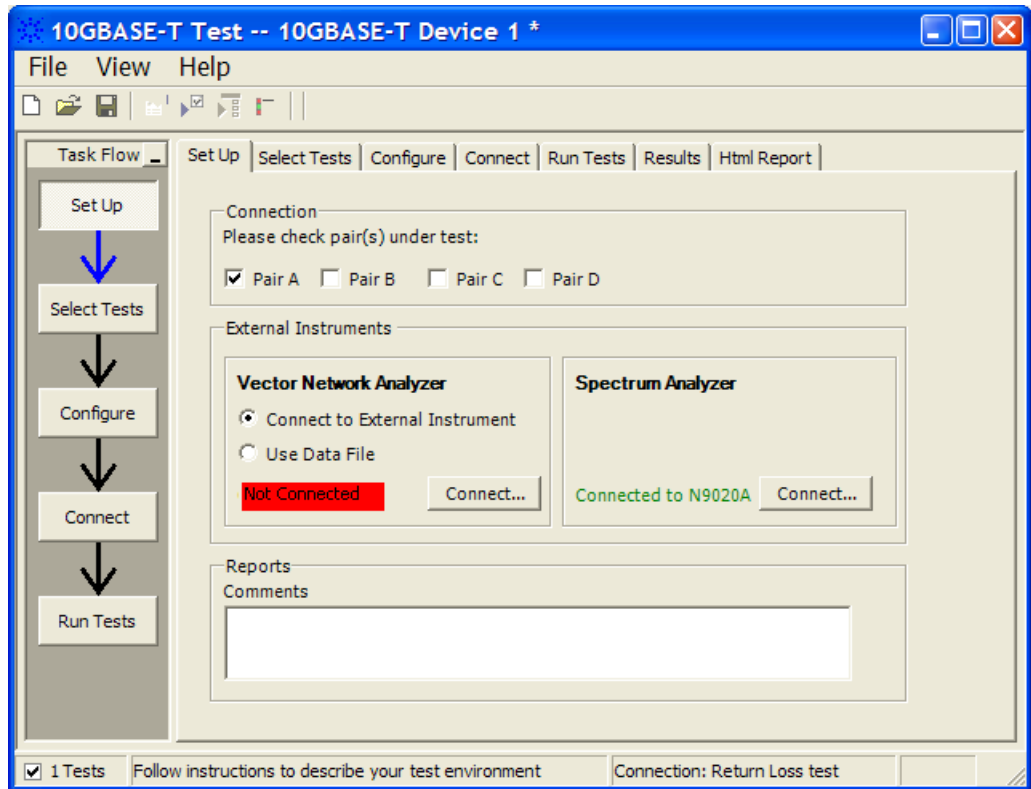

Figure 14 Setup page after application has detected the spectrum analyzer
- 9 Once the application detects the spectrum analyzer, it is indicated on the Setup page as shown in Figure 14 below.